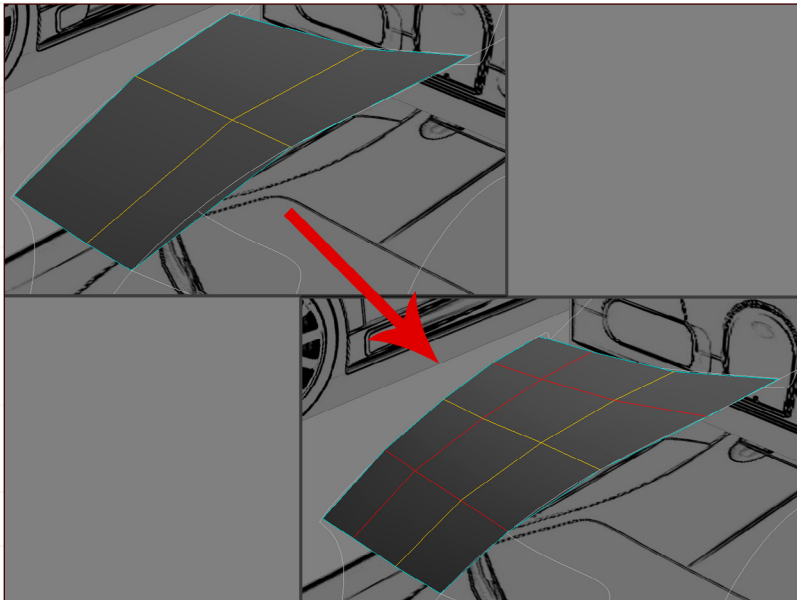

Fig 11
11. After this, using the curves as a guide, we move its points, and with the help of Split Polygon (Model Module > Modify > Poly Mesh) we cut 3 other parallel edges that we then position correctly along with all the points (**Fig11**). Using the fact that our car is symmetrical, we have to create only one half of the car and then we can mirror the other side of the car later. Necessary modifications can be done after that.